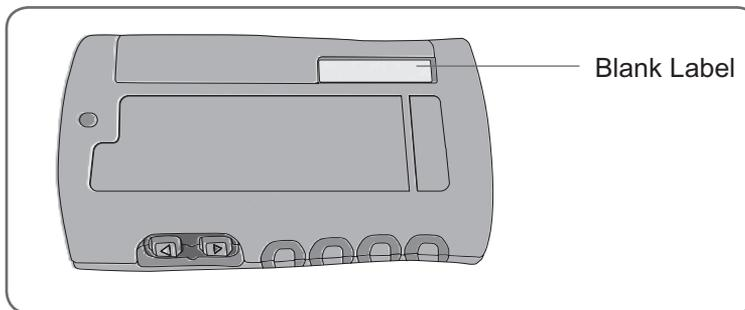

Figure 36: Label on the Control Unit for the System ID Number.
7. Once the Control Unit is registered, locate the System ID Number on the NESS L300 carrying case (for example, A334). Write the number on the blank label on the back of the Control Unit. See Figure 36. This ID number identifies which NESS L300 system the new Control Unit is registered to.